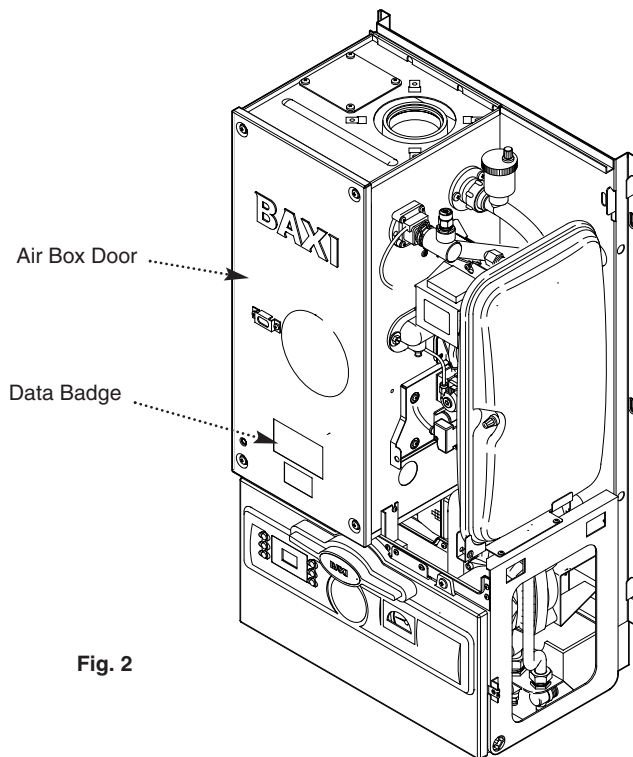

Fig. 2
7. The boiler data badge is positioned on the air box door (Fig. 2).